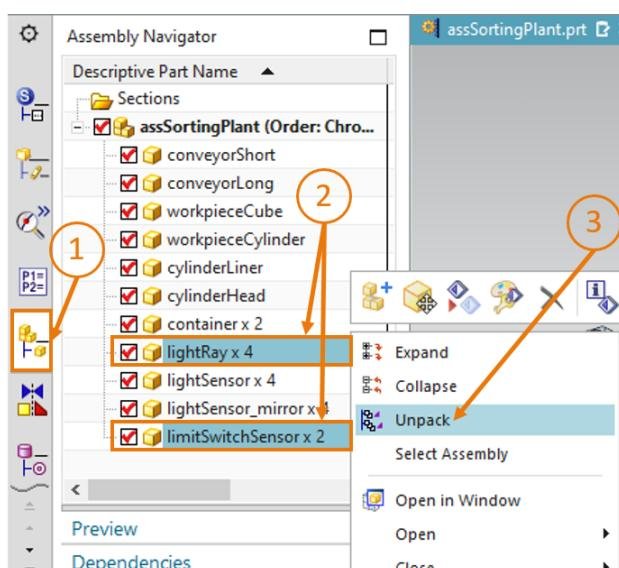

Figure 48: Unpacking models of the same type in an assembly
- To create individual collision sensors, you need to be able to access individual components in the assembly. Open the "Assembly Navigator" tab in the Resource bar for this (see Figure 48, step 1). Select the packed components "lightRay x4" and "limitSwitchSensor x2" one after the other and right-click on them (see Figure 48, step 2). Click the "Unpack" command in the shortcut menu (see Figure 48, step 3). You can now access the individual components in a direct way.